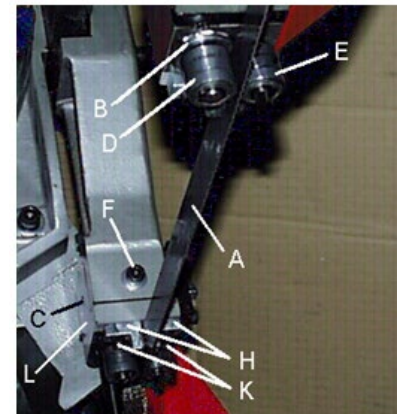
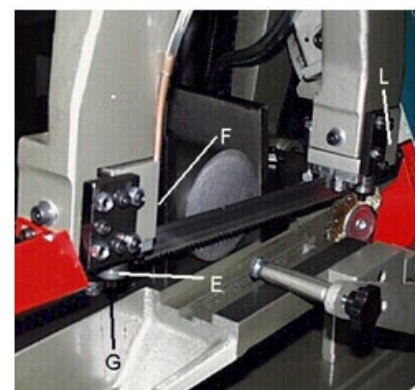

Fig. 18
Fig. 19
1. The back of the blade (A) Fig. 18, should ride against the back-up bearing (B). To adjust, loosen set screw (C) and move the bearing (B) up or down until it lightly touches the back of the blade.
2. The saw blade (A) should also ride between and lightly touch the two blade guide roller bearings (D) and (E) Fig. 18. The front bearing (E) Fig. 18 and 19, is mounted on an eccentric and can easily be adjusted to suit blade thickness by loosening set screw (F) and turning shaft (G) Fig. 19.
3. The carbide blade guides (H) Fig. 18, should also be adjusted so they lightly touch the blade by loosening screws (K).
4. The blade guide roller bearings, carbide blade guides and back-up bearing on holder (L) Fig. 18 and 19 should be adjusted in the same way.